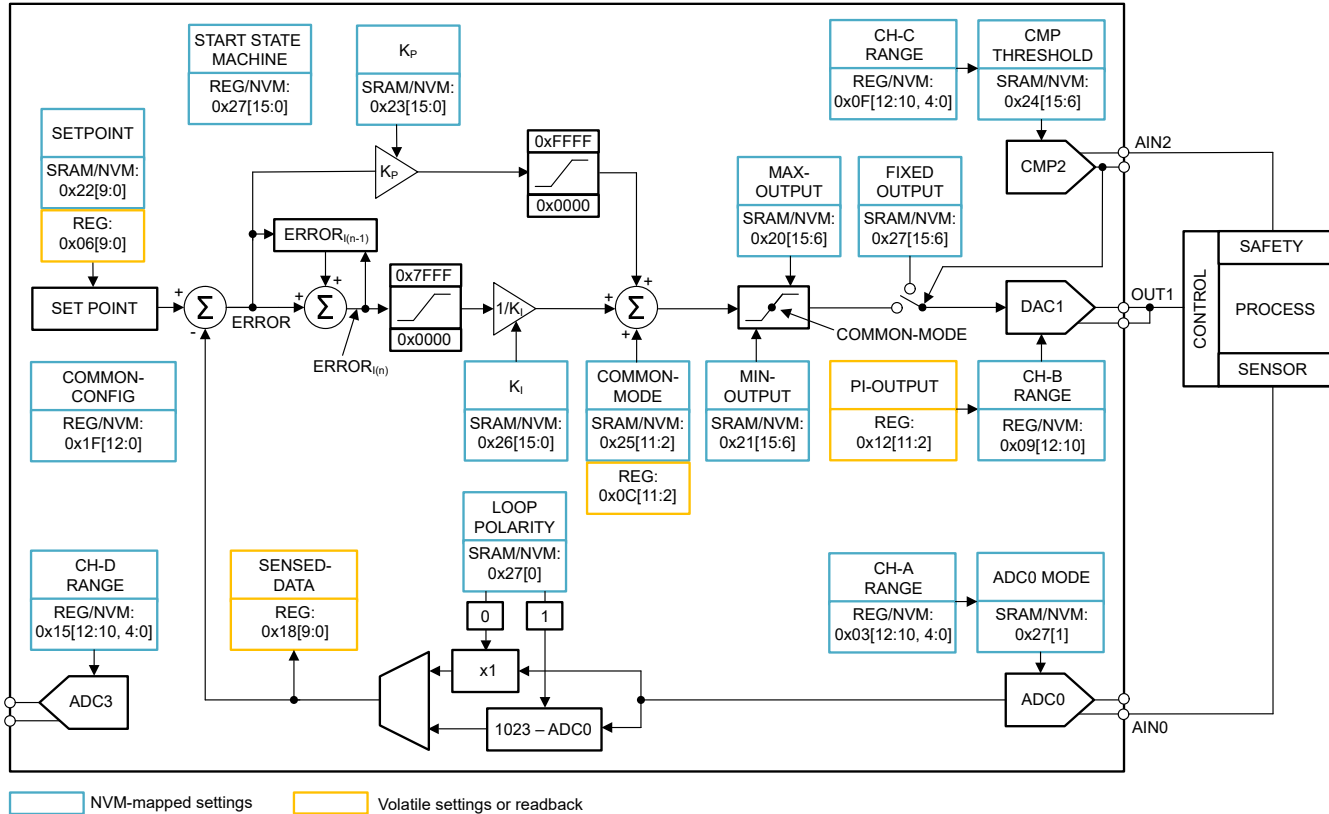

Figure 7-8. PI Controller Architecture
The AFE539A4 provides a preprogrammed PI controller state machine. Figure 7-8 shows the PI controller architecture. ADC channel 0 is used as the input and DAC channel 1 is used as the output. DAC channel 2 is used as a comparator that is used to set the output of DAC channel 1 to a value specified by the FIXED-OUTPUT field. Table 7-9 lists all the input/output pin names and functions.
2. Connect the ADC input, comparator input, and DAC output as shown in Figure 7-8.